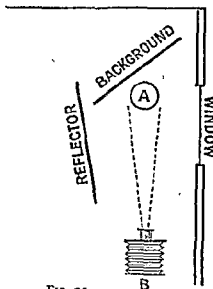

FIG. 25
Fig. 25 is a plan showing the conditions necessary for indoor portraiture. The window should be a fairly large one, and against it should be placed the sitter (A). A reflector will be required for the shadow side of the face; for this a white sheet on a screen or clothes-horse serves very well and far better than a mirror, which does not sufficiently diffuse the light.
For head and shoulder work, particularly indoors, a plain or shaded background, preferably of a slate colour of a medium tint, is useful. By using this at an angle facing the light (Fig. 25) it may be made to photograph quite light in tone, or darker if turned from the light, with